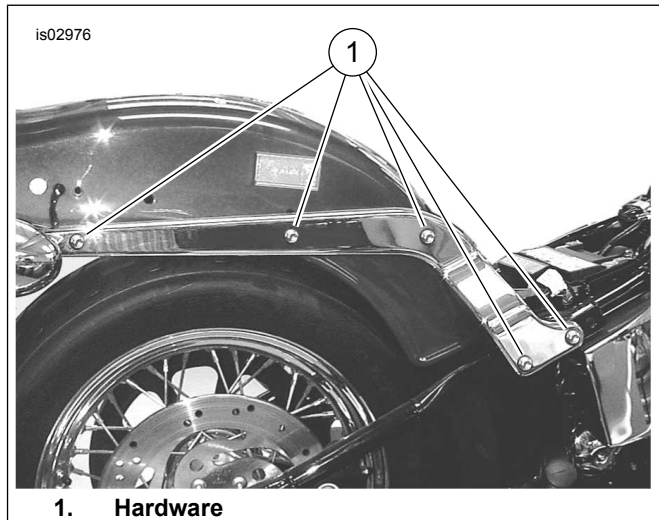

Figure 4. Strut Mounting Hardware
3. See Figure 4. Remove hardware (1) securing right side strut and gently pull wiring out through fender.